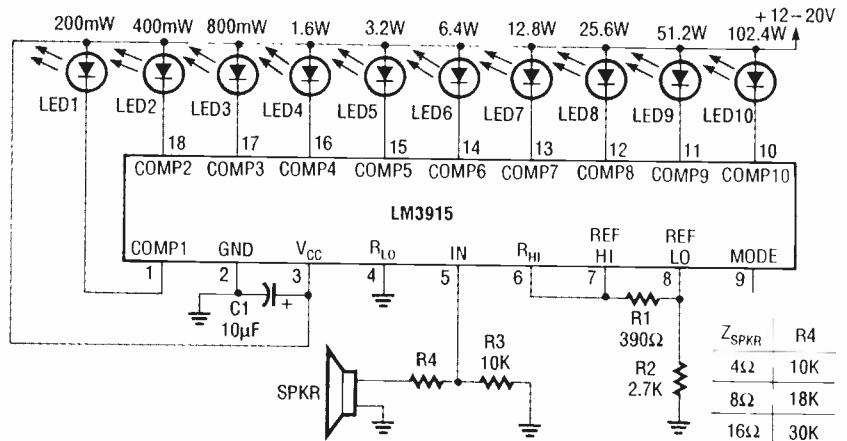
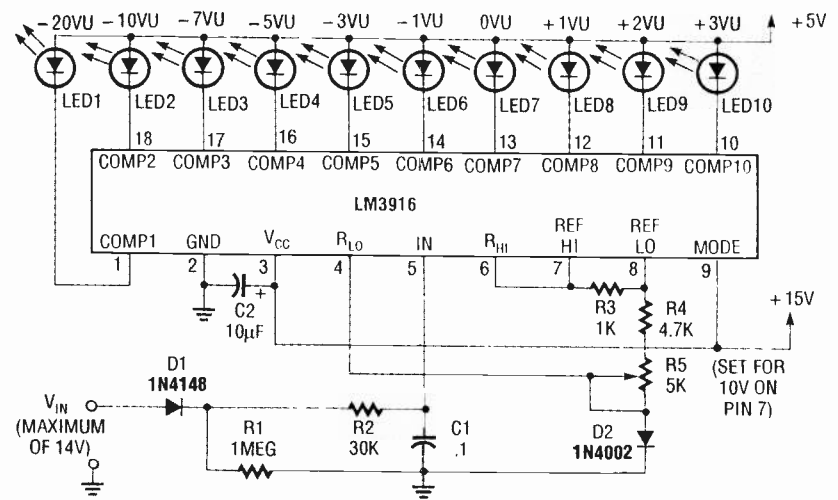
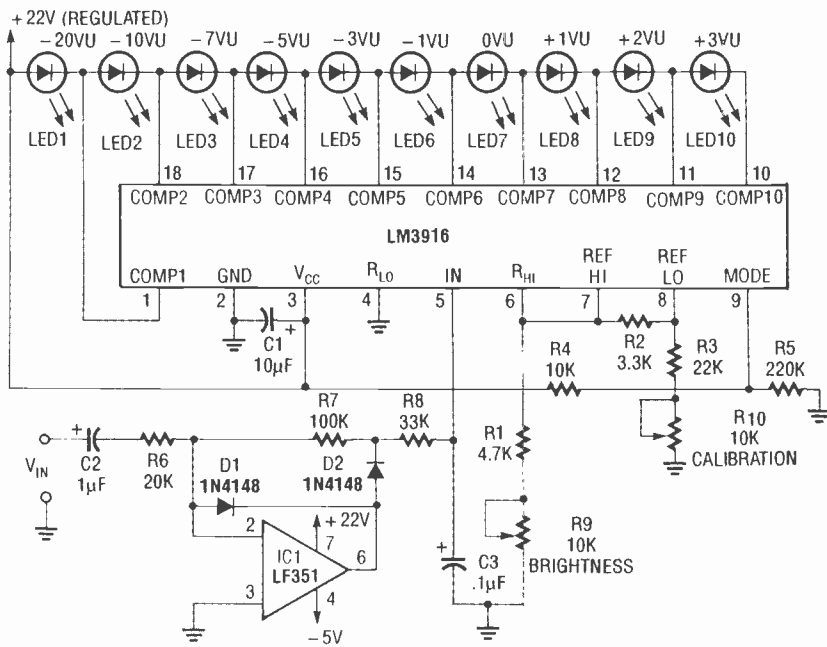

FIG. 14—A SIMPLE AUDIO POWER METER.
FIG. 15—A SIMPLE VOLUME-UNIT (VU) METER.
FIG. 16—A PRECISION VU METER with low current drain.
Figure 14 shows an LM3915-based audio power meter. Pin 9 is left open for dot mode, and R1 equals 390 ohms, for an LED current of 30 milliamps. The range of the audio power meter is 200 milliwatts–100 watts. A better approach is to half-wave rectify the signal on the input and feed in the resulting DC, as shown in the VU-meter circuits of Figs. 15 and 16.
Figure 15, a simple volume-unit (VU) meter, uses an LM3915 in bar mode; the signal at the input is rectified by D1 and filtered by R1-R2-C1, with D2 compensating for the forward drop of D1. Figure 16, a precision VU meter offering low current drain, uses an LM3916, with the combination of IC1-D1-D2 acting as a precision half-wave rectifier.